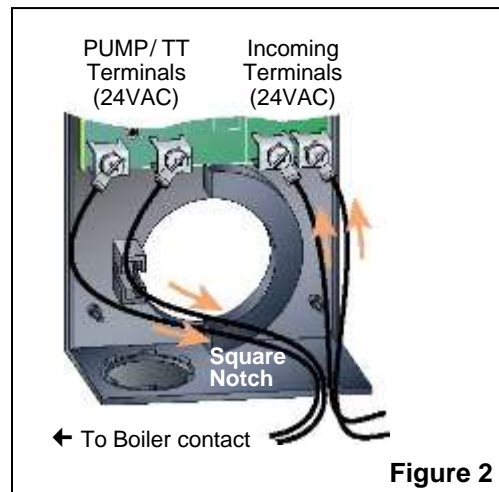

Figure 2
- *Low Voltage* (Figure 2) - Run all 24VAC wiring through the square notch in the bottom of the TPI case. Connect 24VAC supply to 24VAC Terminals on the bottom right corner of the TPI.